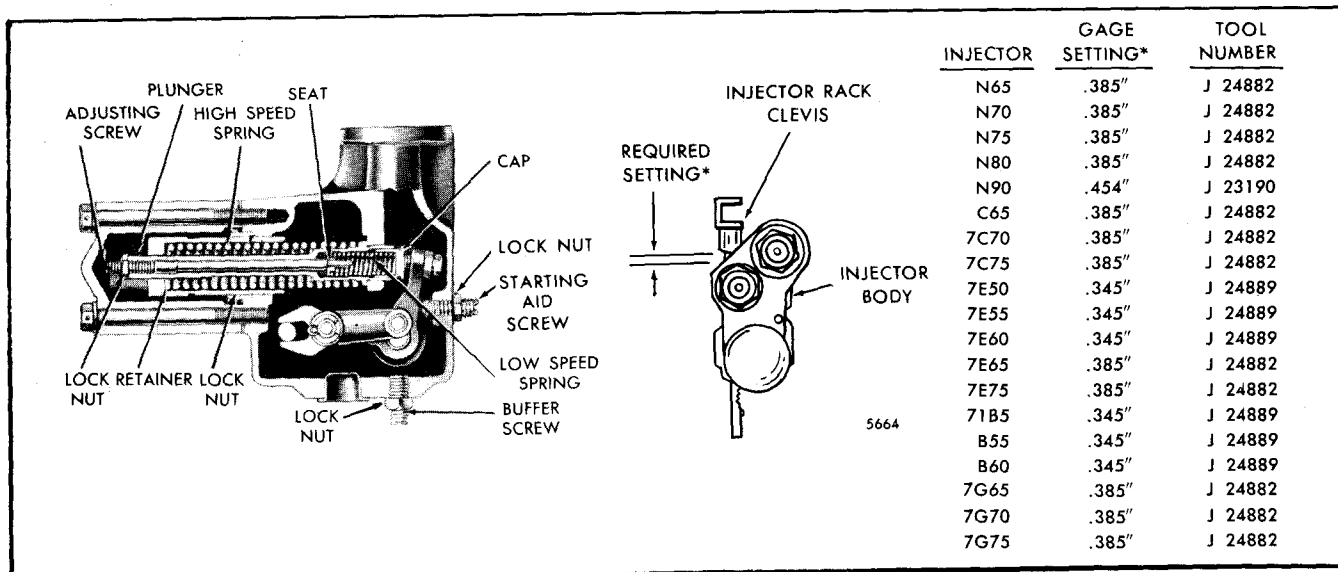

Fig. 6 - Adjusting Starting Aid Screw (Turbocharged Engines)
- b. Adjust the starting aid screw to obtain the required setting between the shoulder on the injector rack clevis and the injector body (Fig. 6). Select the proper gage and measure the setting at any convenient cylinder. When the starting aid screw is properly adjusted, the gage should have a small clearance of 1/64" in the space along the injector rack shaft between the rack clevis and the injector body.